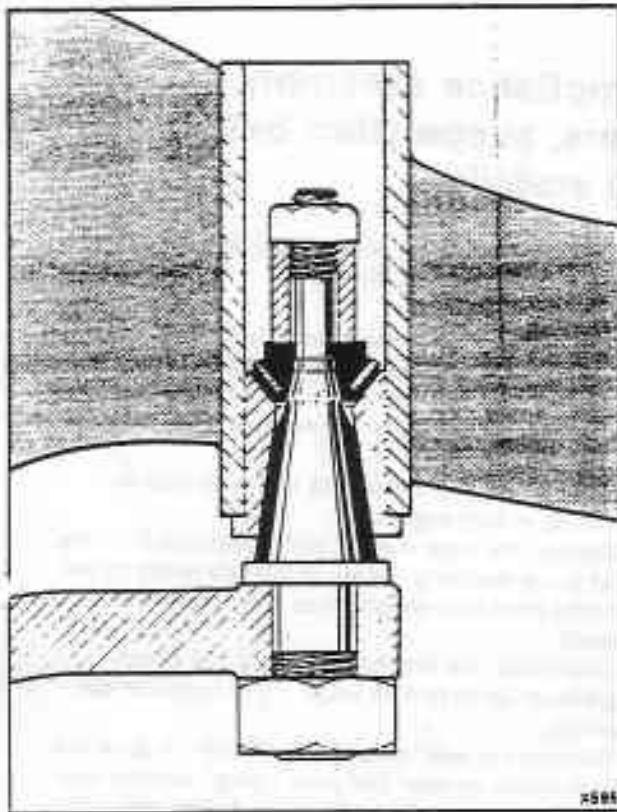

Fig. H4-3 Rear triangle lever mount
2. Assemble the rear triangle lever onto the sub-frame as shown in figures H4-3 and H4-4. Do not tighten the nut.